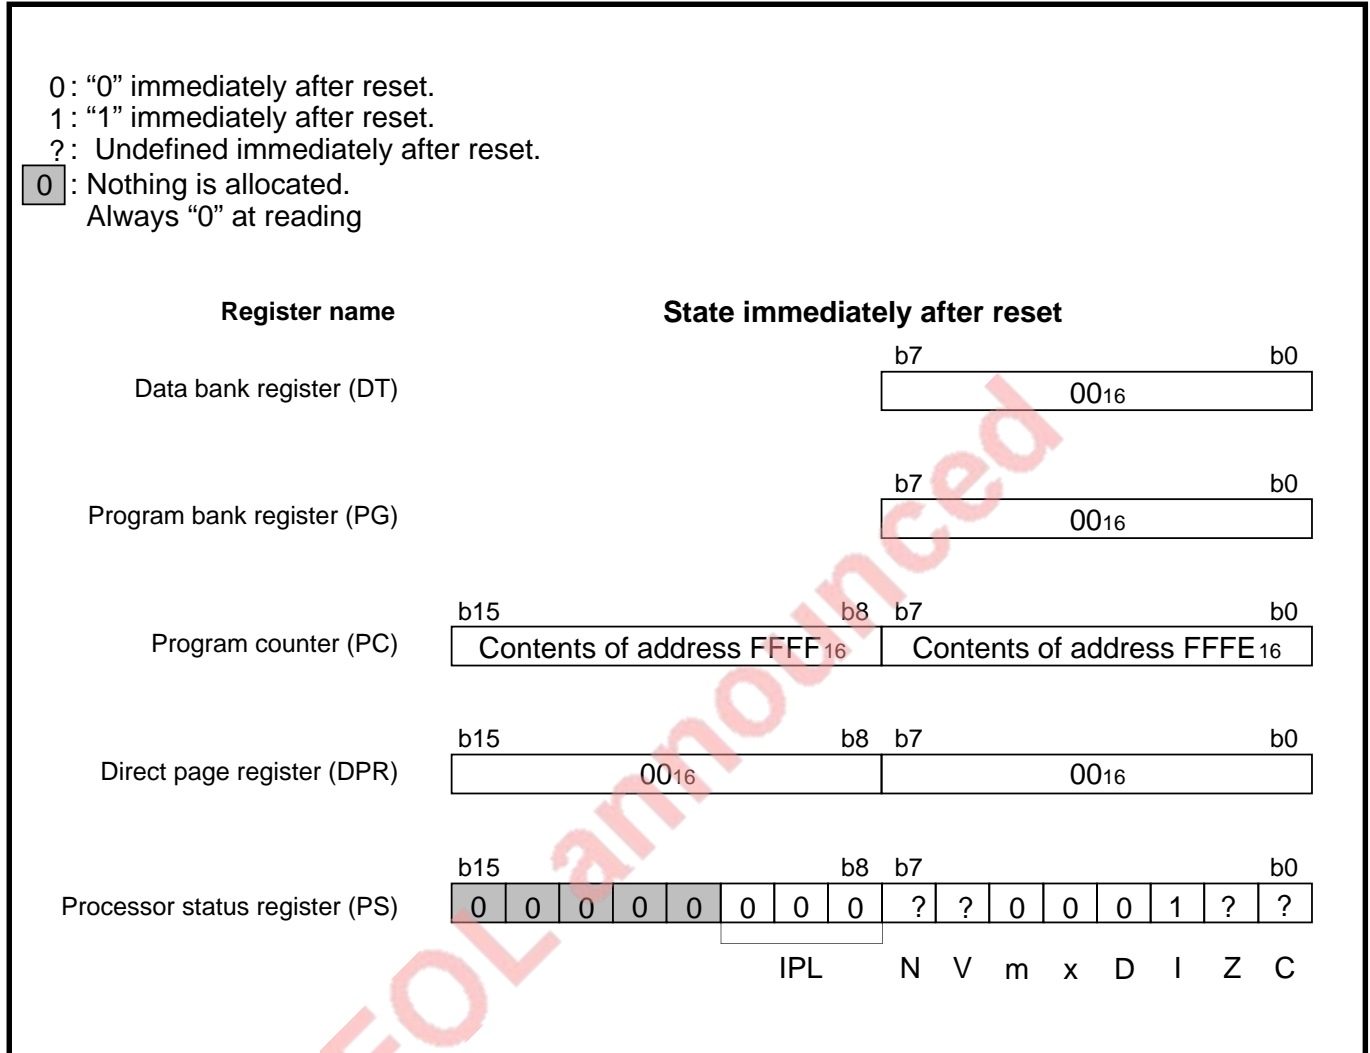

Fig. 13.1.2 State of CPU registers immediately after reset
- ① After “L” level is applied to pin  $\overline{\text{RESET}}$ , pins are initialized within a period of several ten ns. (Refer to **Table 13.1.1.**)
- ② While pin  $\overline{\text{RESET}}$  is at “L” level or within a period of 4 to 5 cycles of internal clock  $\phi$  after pin  $\overline{\text{RESET}}$ 's level changes from “L” to “H,” the central processing unit (CPU) and SFR area are initialized. At this time, the contents of the internal RAM area is undefined (except the cases where the stop or wait mode is terminated.). Refer to **Figures 13.1.2 to 13.1.6.**
Figure 13.1.2 shows the state of the CPU registers immediately after reset. Figures 13.1.3 to 13.1.6 show the state of the SFR area and internal RAM area immediately after reset.